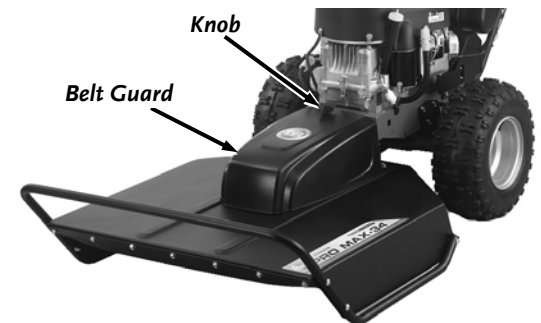

Figure 33
1. Unscrew the Hand Knob and remove the Belt Guard (**Figure 33**).